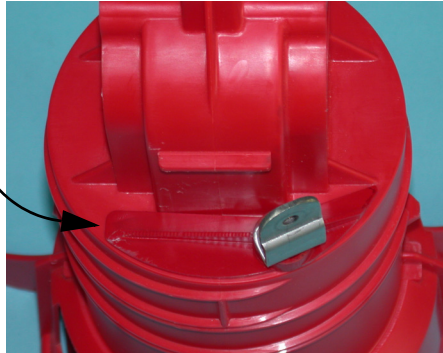

Figure 25. Rotate brood adjustment prior to grill installation.
2. Rotate brood adjustment until cover washer is flush with outer cone, see **figure 25**.